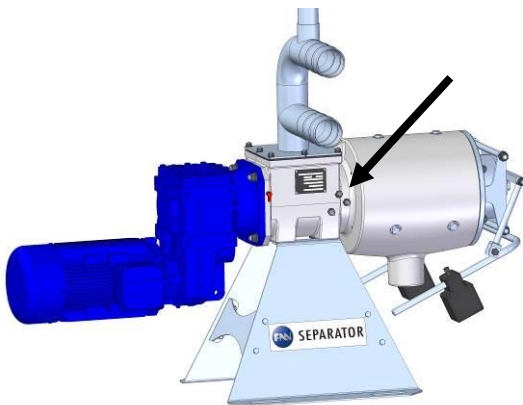

Fig. 13-14 Scraping bolts
- Readjust scraping bolts (see section 13.4 Fig. 13-14)